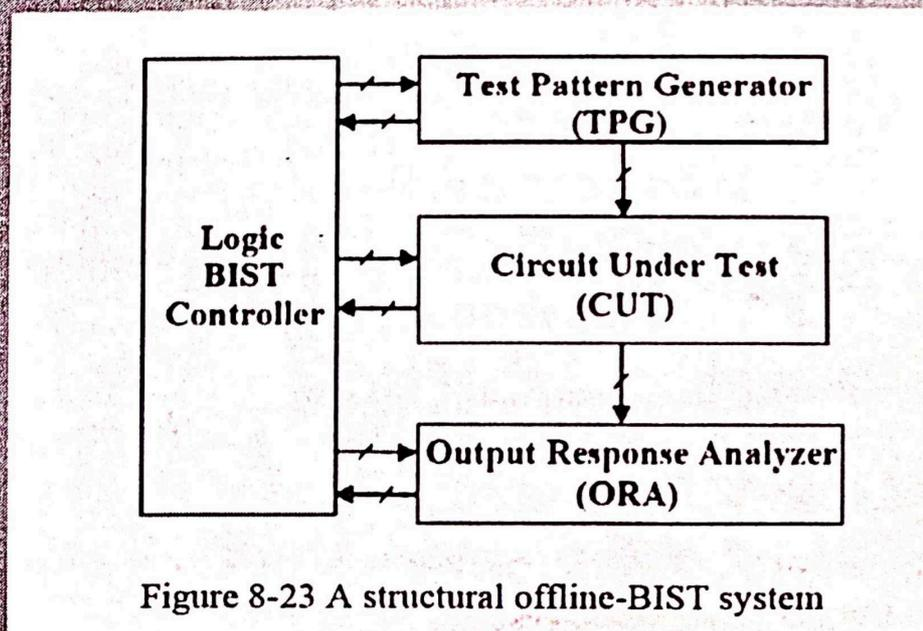

Figure 8-23 A structural offline-BIST system
- In this methodology, test patterns are generated on-chip and test responses are also analyzed on-chip. The basic of BIST designs has a Test pattern generator (TPG) and an output response analyzer (ORA) as shown in Figure 8-23.